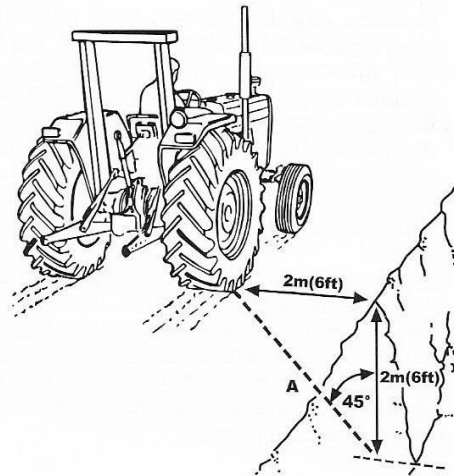

Fig. 13
- Avoid crossing steep slopes if possible. If you must do so, avoid any holes or depressions on the downhill side. Avoid any stumps, rocks, bumps or raised areas on the uphill side. When operating near ditches and banks, always keep your tractor behind the shear line (A, Fig. 13). Avoid ditches, embankments and river-banks which might cave in.